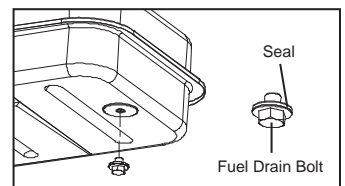

Figure 10. Fuel Drain Bolt
(For KFA135C /220C Models Only. See Figure 10)
5. Reinstall fuel drain bolt to Fuel tank and tighten firmly using 3/4” socket or adjustable wrench. (For KFA135C /220C Models Only. See Figure 10)